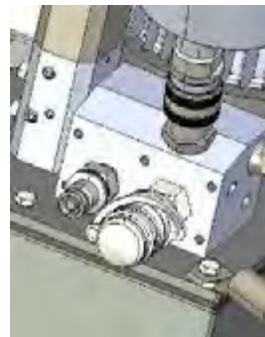

fig 1
1. Remove existing couplers and fittings (fig 1) from Valve Block. (Keep for Reuse)